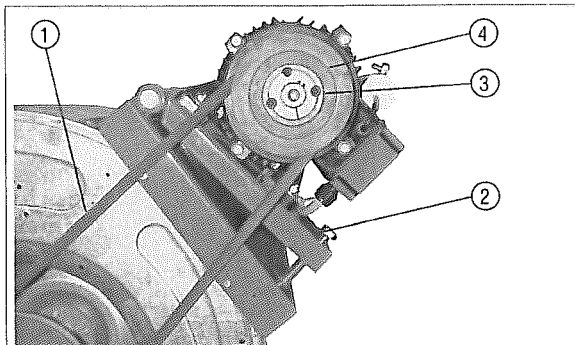

Fig. 1
- If the heater is equipped with centrifugal fan and if the volume of hot air differs from preset values proceed as follows (Fig. 1):